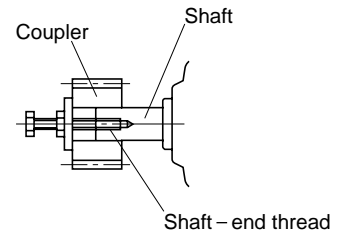

Fig. 2
- Shrink fit or shaft-end thread is recommended for mounting (Fig. 2)